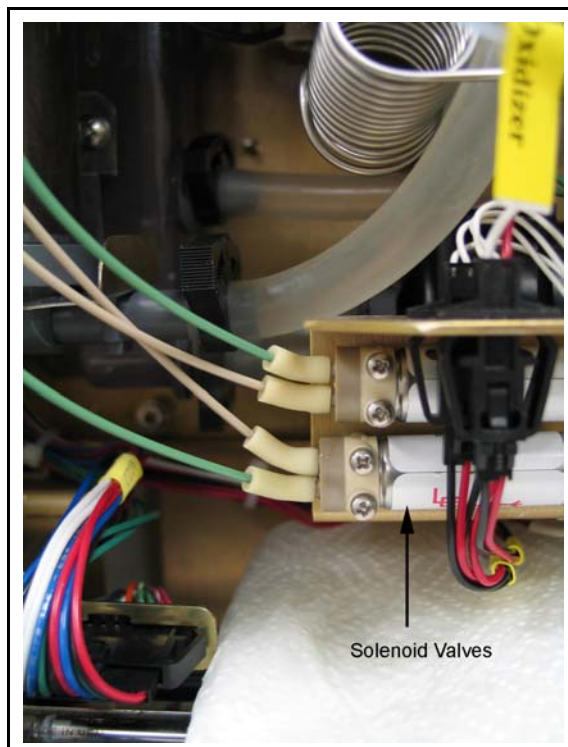

Figure 47: Preparing to Disconnect the Tubing from the Solenoid Valves
14. Follow the piece of tubing with the obstruction down to the solenoid valve (see Figure 47).